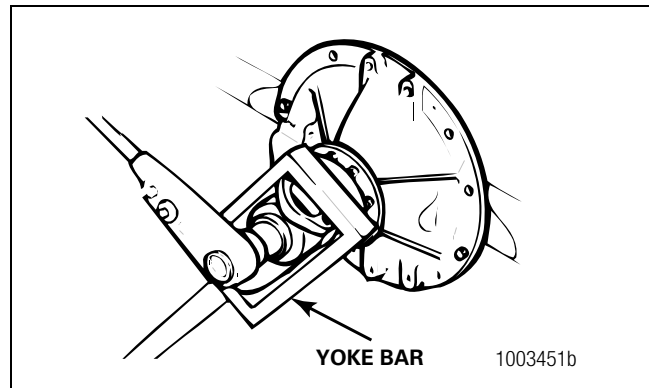

Figure 3.7
2. Attach a flange bar to the flange or place a yoke bar over the input or output yoke to hold the yoke or flange while you remove the pinion nut. Figure 3.7. Refer to Section 10 to make a yoke bar.